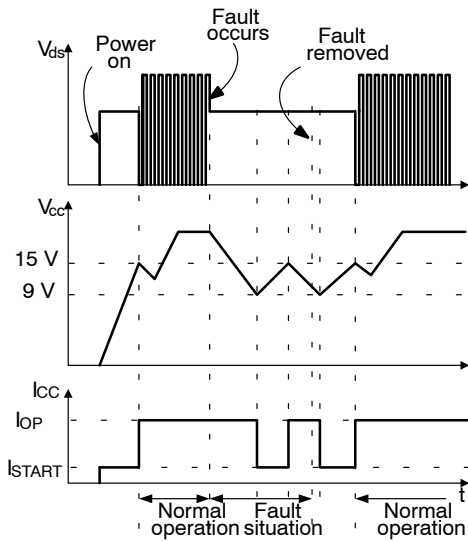

Figure 33. Auto Restart Mode Protection
- **Auto-Restart Mode Protection:** Once the fault condition is detected, switching is terminated and the SENSEFET remains off. This causes V_{CC} to fall. When V_{CC} falls to the under voltage lockout (UVLO) stop voltage of 9 V, the protection is reset and the FSCQ series consumes only startup current (25 mA). Then, the V_{CC} capacitor is charged up, since the current supplied through the startup resistor is larger than the current that the FPS consumes. When V_{CC} reaches the start voltage of 15 V, the FSCQ series resumes its normal operation. If the fault condition is not removed, the SENSEFET remains off and V_{CC} drops to stop voltage again. In this manner, the auto-restart can alternately enable and disable the switching of the power SENSEFET until the fault condition is eliminated (see Figure 33).